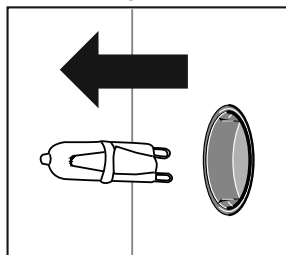

Figure 5
3. Pull out the bulb from its position and replace the bulb with a new one of the same type. (Figure 5)